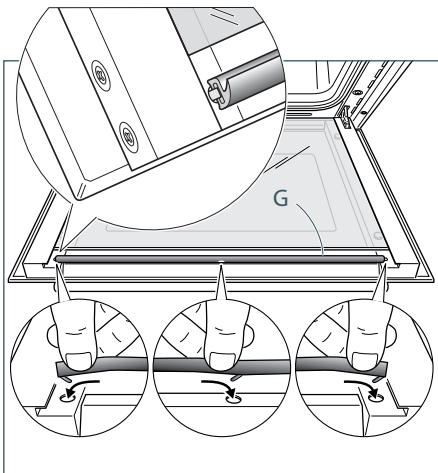

Fig.84e
- Replace the seal "G" by hooking in the three fixing hooks. Make sure that you put it in the correct way (Fig. 84e).